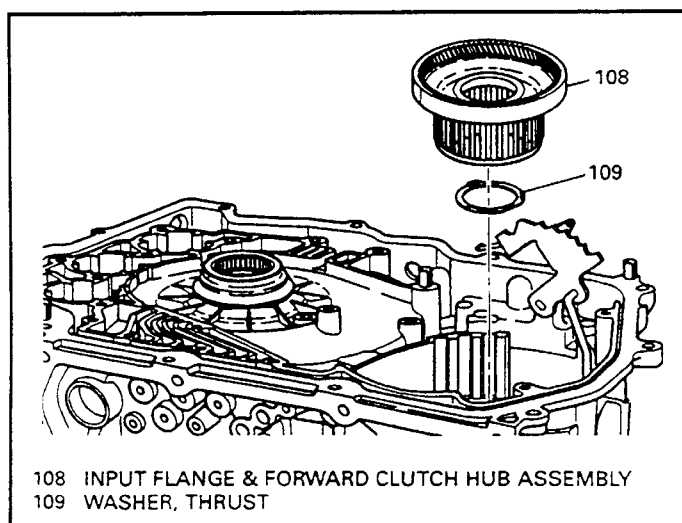

Figure 121
24. Install the forward clutch hub and input ring gear assembly into the transaxle, by rotating back and forth to engage the hub splines into the forward clutch plates (See Figure 121).